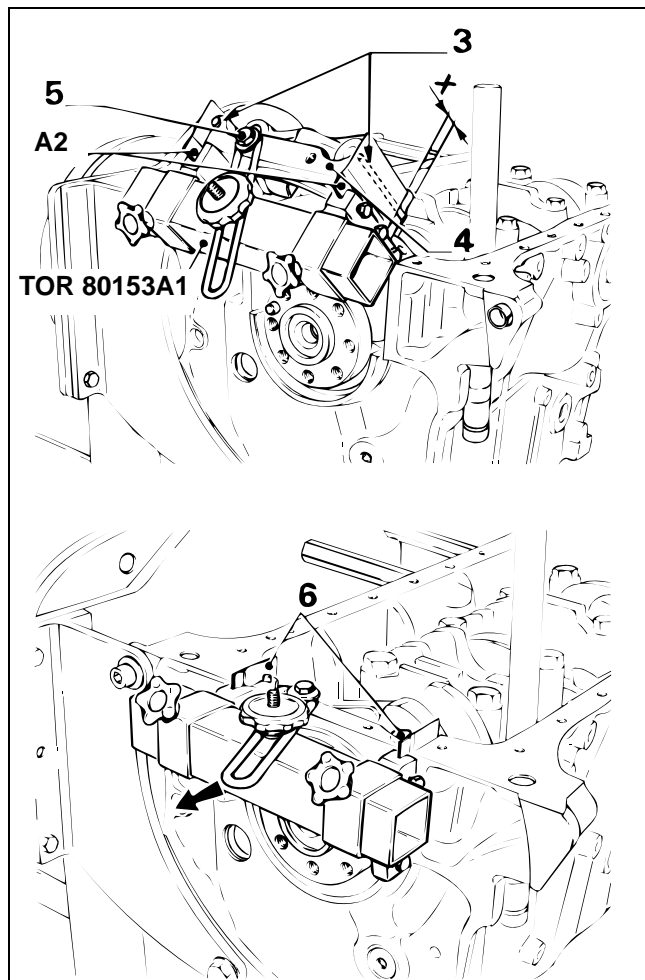

Figure 75
9. Install the two new side seals (Fig. 75, Item 3) to no. 1 main bearing cap.